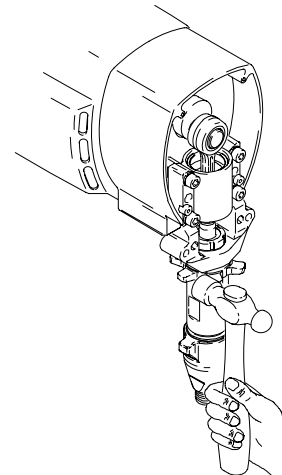

Fig. 23 _____ 7673A
5. Fig. 23. Loosen locknut by hitting firmly with a 20 oz (maximum) hammer. Unscrew pump.